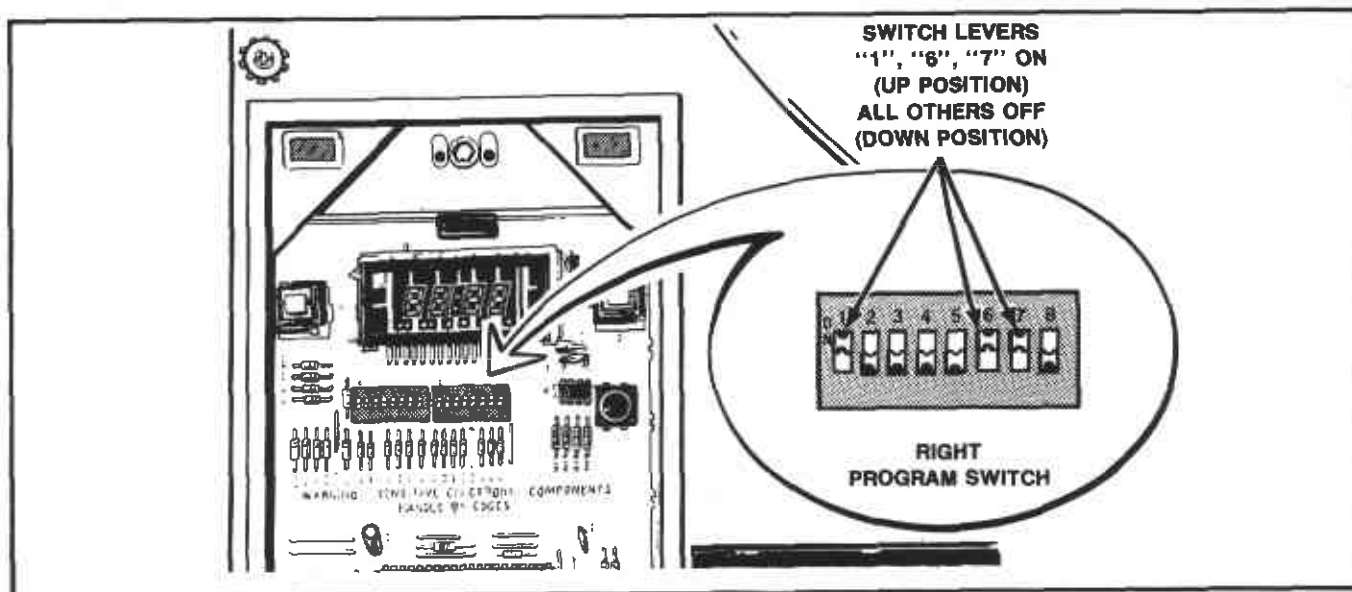

Figure 43
- d. Slide the right program switch number 4 down and slide right program switch number 7 up, *Figure 43*. Switches 1, 6, and 7 must be up and all other switches must be down.